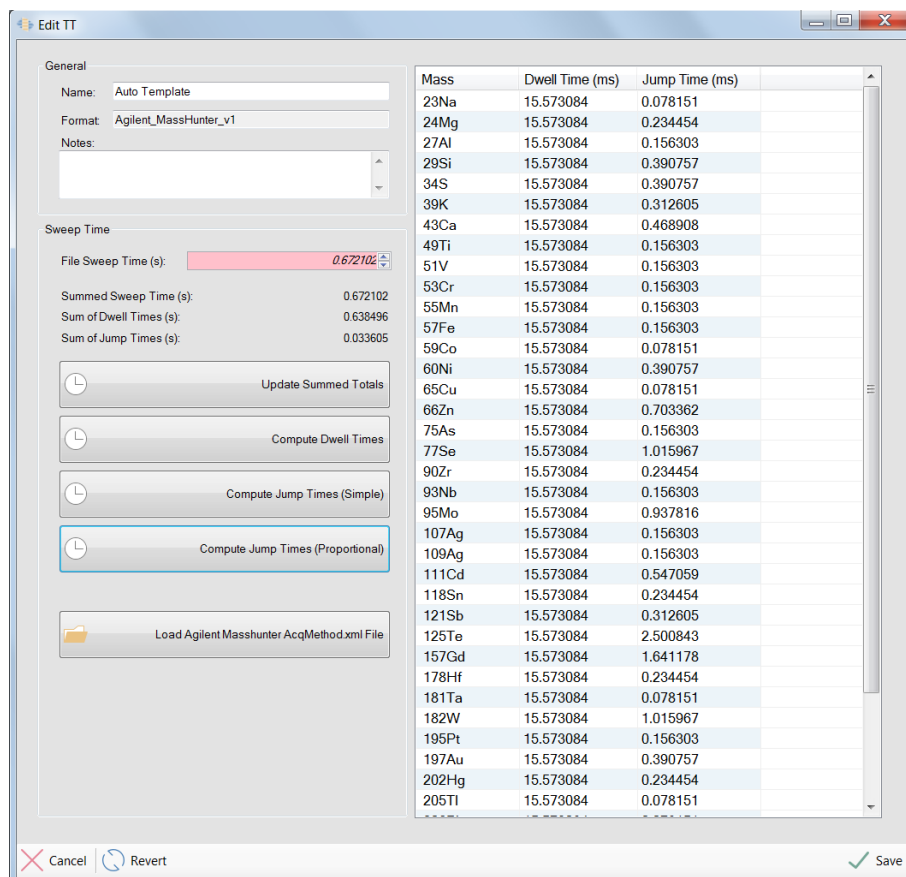

Figure 17: Edit timing template window
- Edit Timing Template - This opens the edit timing template window (Figure 17).